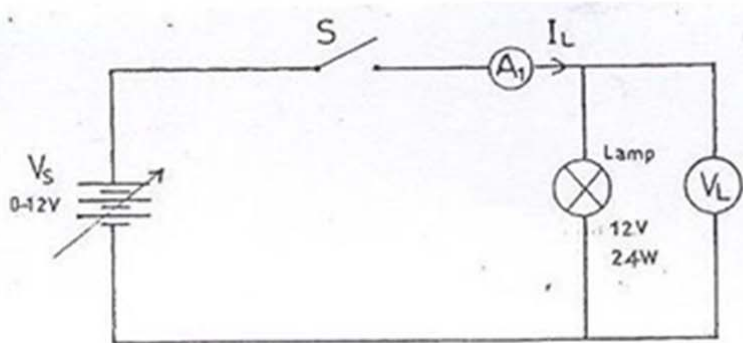

Figure 1
- Connect the circuit as shown in Figure 1.